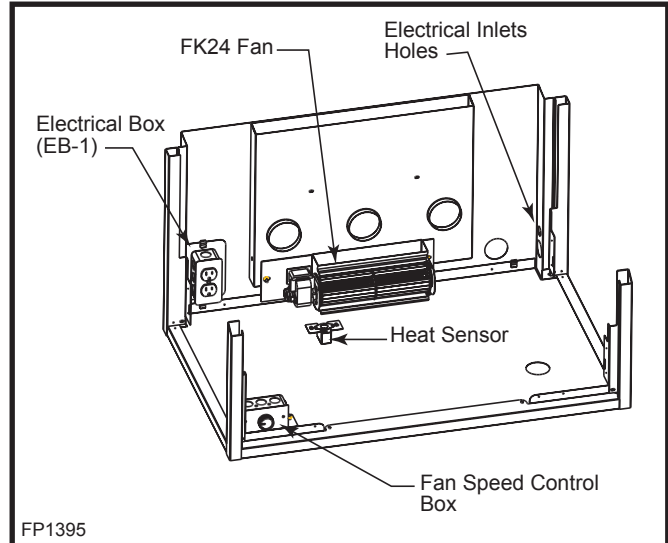

Fig. 48 FK24 fan location.
3. Locate the fan speed control unit. This can be fitted behind the lower louvre assembly as in Figure 48 or located remotely in a conveniently located wall mounted electrical box. Remote location of the speed control will require suitable extension of the component wiring.